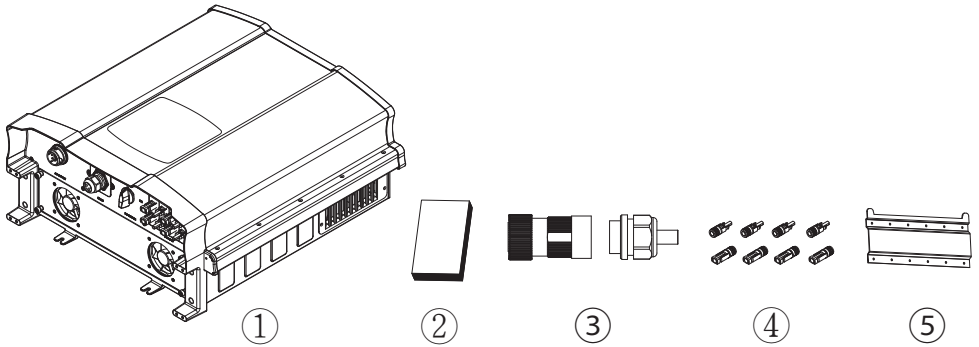

Figure 2-2 Packing list
- Check if all the accessories are in the package, the standard accessories are list as Table 2-1 & Figure 2-2.